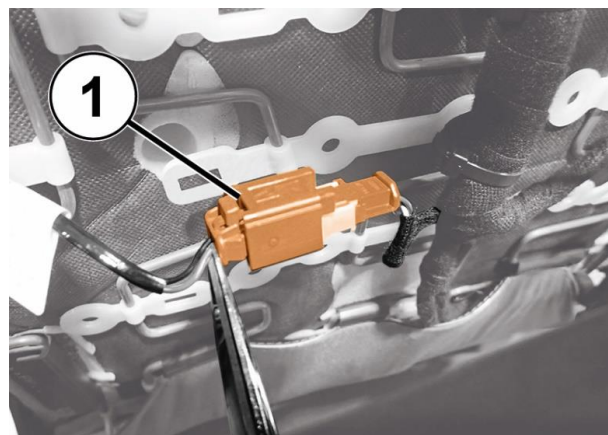

Figure 4 – Remove Connector
7. Cut the cables and remove the connector (1) (Figure 4).